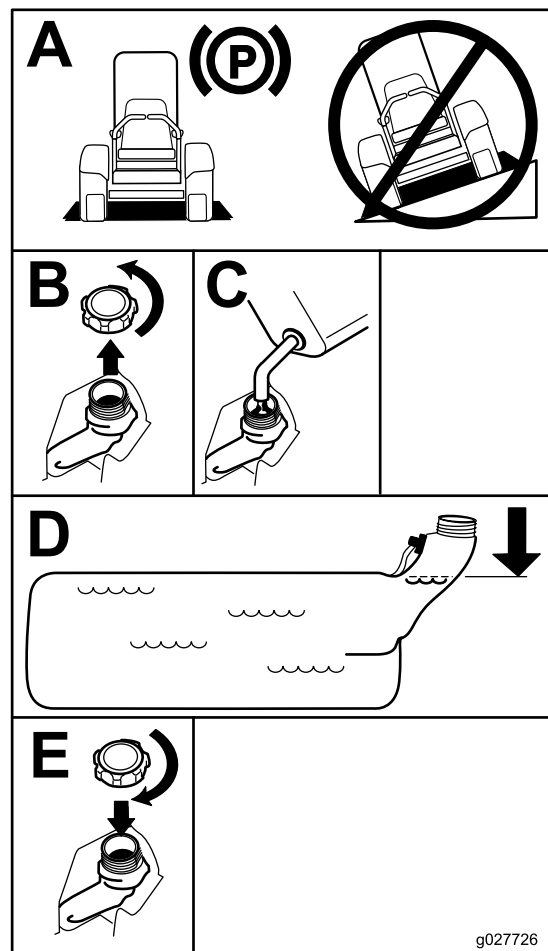

Figure 7
5. Fill the fuel tank until the fuel gauge reads at the full mark (Figure 7).